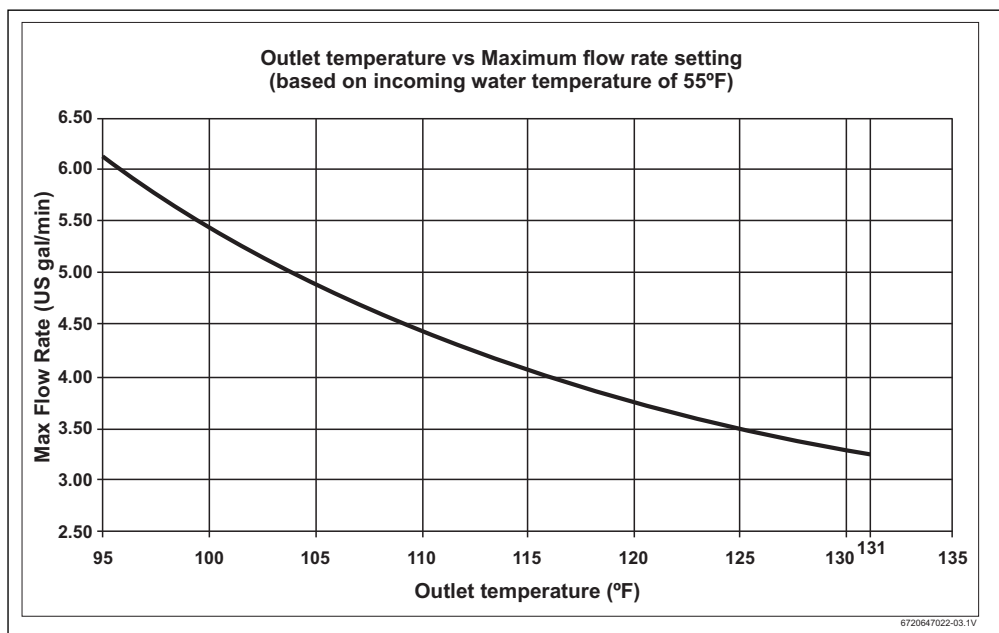

Fig. 8
- ▶ If the water temperature is not hot enough, adjust the outlet shut-off valve until the temperature is acceptable. Use Fig. 8 below for reference if you know your maximum flow.
These figures are based on an inlet water temperature of 55 °F and a supply voltage of 240 volts. If the inlet water temperature is lower than 55 °F, or if the supply voltage is less than 240 volts, then the flow rate for the shown temperatures will be reduced shown in Fig. 8. If a higher outlet water temperature is desired, then reduce the flow rate and/or supply the unit with 240 volts.
The inlet water temperature is too cold	Verify the heater is sized appropriately for it's geographic location. Turn temperature knob located on the bottom of the water all the way clockwise for maximum temperature setting. Ensure flow rates are within the heater's specifications. Refer to Fig. 8 on page 14 of the manual. Use of an isolation valve on the hot water outlet to control flow rate is recommended.
Temperature dial is turned too low	Turn the temperature dial located on the bottom of the water heater clockwise for hotter temperatures. Refer to Fig. 8 for outlet temperature vs. flow rate variance.
Water flow is too high	Adjust water flow to stay within the water heater's specifications. See Fig. 8 of this manual.
Outlet shut-off valves are set too low	Adjust installer supplied outlet valve as described below: • Completely open both installer supplied inlet and outlet shut-off valves at the heater. (if none installed, install before proceeding). • Completely open hot water on the highest flowing hot water fixture served by the heater (i.e. bathtub). • Slowly close the outlet shut-off valve, slowing the water flow rate until the temperature at the hot water faucet corresponds to the values given on Fig. 8 of the manual, or desired water temperature is reached.
Changing flow rate. Water supply connected to the outlet of the unit.	Major changes in flow rate can adversely affect the output water temperature of the heater. Increases from one major fixture running to multiple fixtures running at one time can cause the temperature to fluctuate. Stay within the heater's specifications. See Fig. 8.